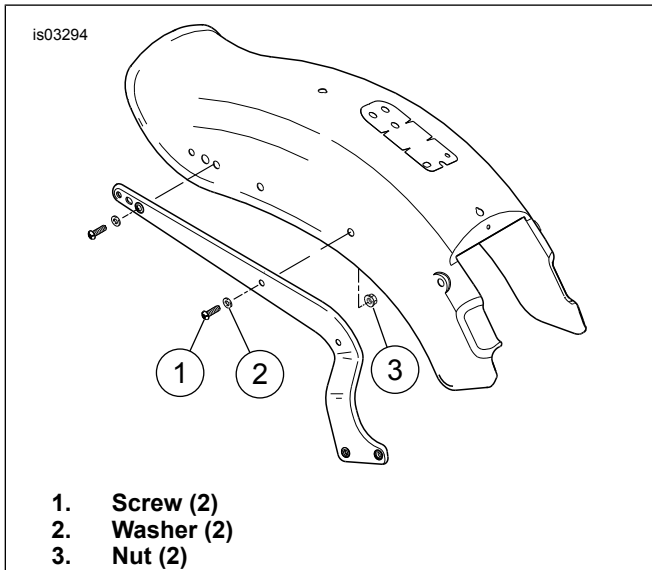

Figure 1. Remove Hardware (FXST)
1. See Figure 1. Remove and discard stock screws (1) and washers (2) from fender support.